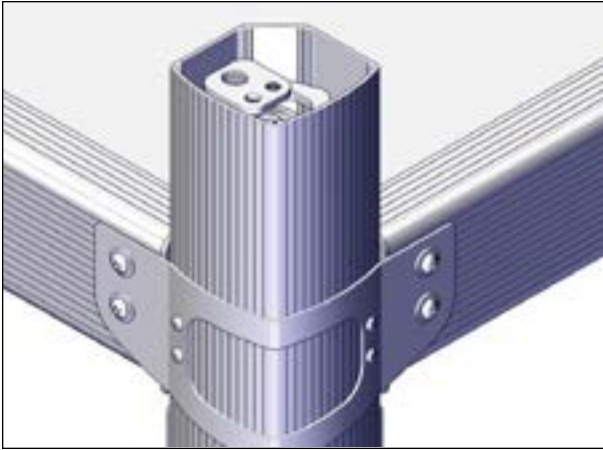

FIGURE 90: INTERNAL JACK
6. Raise the jacks with the key switch. The four internal jacks will raise but the cover panels should stay in place, see Figure 90.